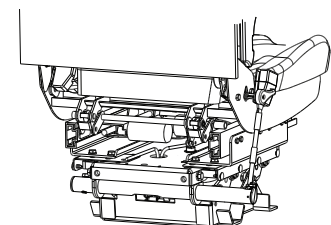

Figure 7
5. Move the loose mounting bracket to the seat mounting flange and install the mounting bolt and tighten. **See Figure 7.**
6. Torque each ICP Bar mounting bracket bolt (2) to 35 to 40 ft-lbs.